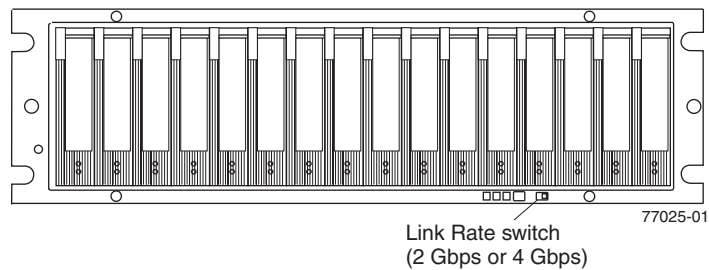

Figure 113. Link rate switch
A Link Rate switch is located on the front of the storage subsystem as shown in Figure 113 on page 163. The Link Rate indicator LEDs are located on the back of the storage subsystem. The Link Rate switch enables you to select the data transfer rate between the controllers and the drives to either 2 Gbps or 4 Gbps. The Link Rate switch is only read when the storage subsystem is powered up.
4. Locate the Link Rate switch. Figure 113 shows the location of the Link Rate indicator light on the front of the command module.